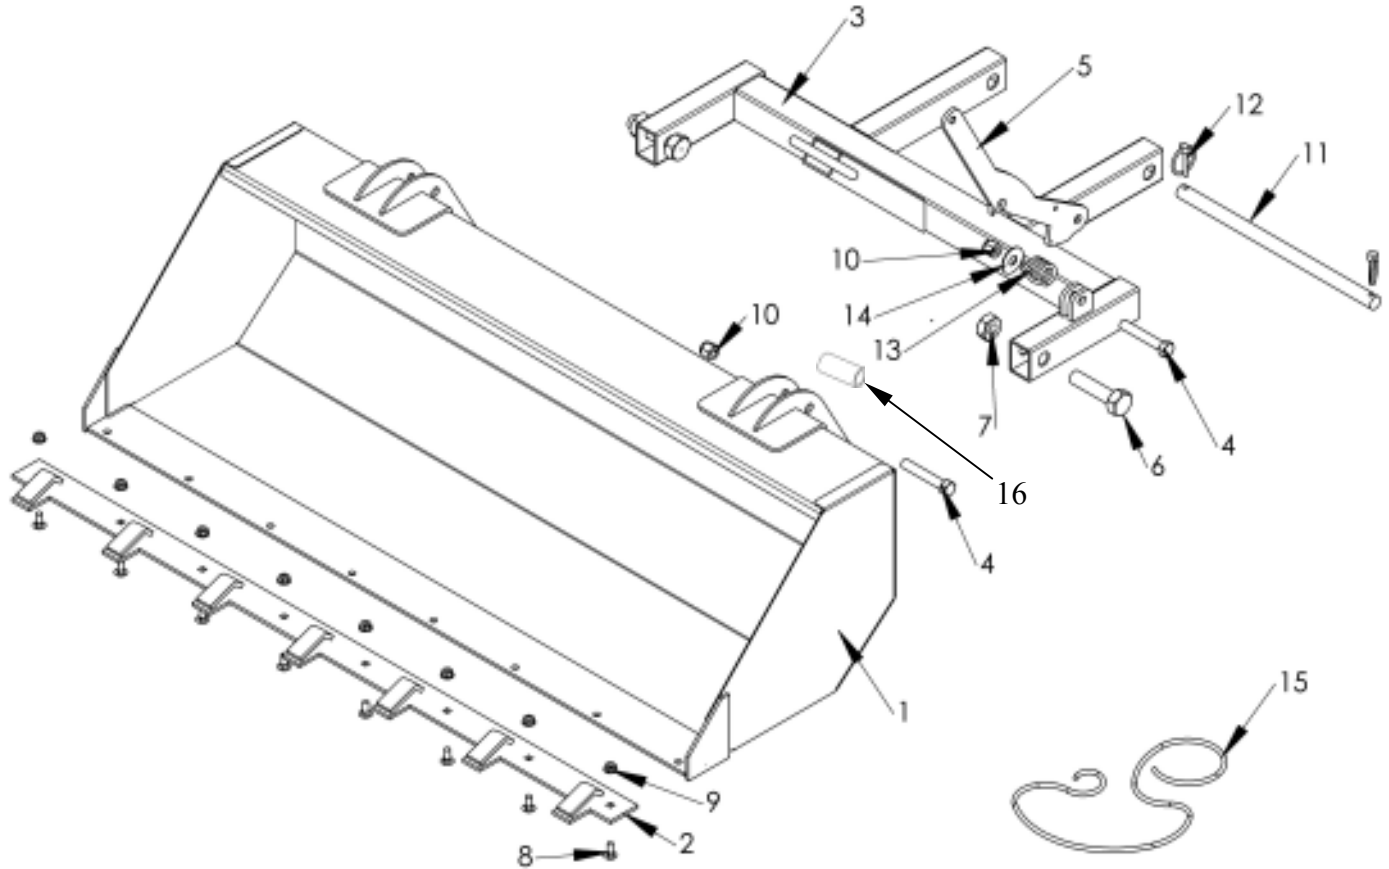

FIGURE 1
REFER TO FIGURE 1 WHILE INSTALLING THE BUCKET ATTACHMENT
1. BEGIN BY LAYING OUT THE PARTS SIMILAR TO FIGURE 1
2. ATTACH THE BUCKET HITCH(3) TO THE BUCKET(1) USING BOLTS(6) AND NUTS (7).
3. INSTALL THE LATCH REST BOLT(4), ROLLER BUSHING(16) AND NUT(10) TO THE BUCKET.
4. PLACE THE BUCKET LATCH(5) IN THE UPRIGHT TABS ON THE BUCKET HITCH(3) USING BOLT(4) TO HOLD IT THERE.
5. INSERT THE BENT PART OF THE SPRING(13) INTO THE BUCKET LATCH(5) ON THE SIDE FACING THE CENTER OF THE BUCKET HITCH(3) AND OVER THE BOLT (4) GOING THROUGH THE LATCH. THE LONG STRAIGHT PART OF THE SPRING WILL REST ON TOP OF THE BUCKET HITCH(3).
6. NEXT, PLACE THE WASHER(14) OVER BOLT (4) ENDING WITH NUT (10), TIGHTEN THE ASSEMBLY UNTIL THE NUT IS ALL THE WAY ON THE BOLT, ALLOWING LATCH (5) TO ROTATE FREELY.
8. INSERT THE PLOW MOUNT PIN(11) THROUGH THE BUCKET HITCH AND THE ACCESSORY MOUNT.
9. SECURE THE PIN WITH THE CLICK PINS(12) ON EACH END OF THE MOUNT PIN.
10. TIE THE RED TRIP RELEASE ROPE(15) TO THE TOP OF THE BUCKET LATCH(5).